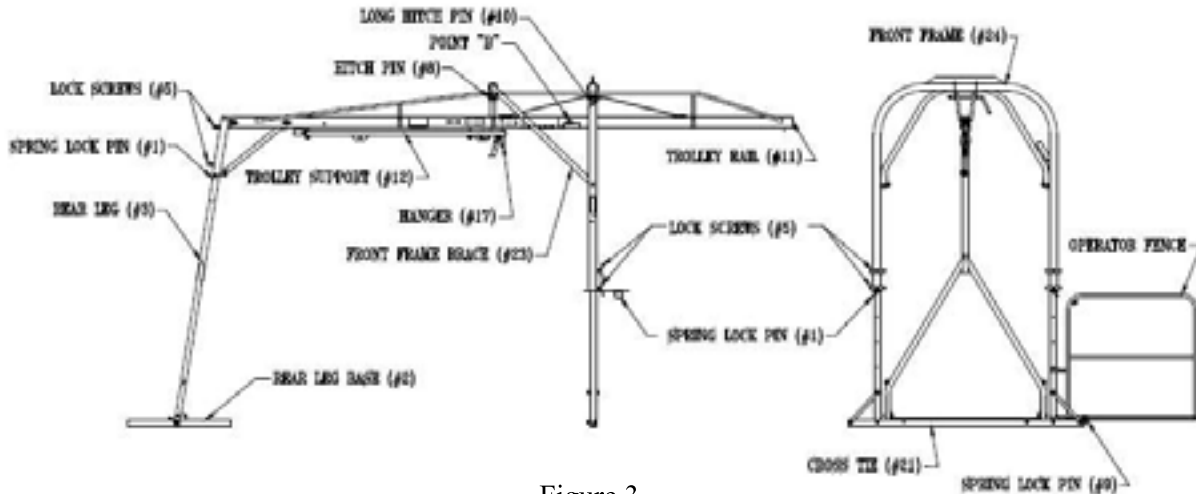

Figure 3
<p>Procedure</p> <ol style="list-style-type: none"> <li>1. Conduct a pre-starting inspection <ol style="list-style-type: none"> <li>a. Determine that the roof deck can support the intended loads in hoisting and material handling in addition to the weight of the counterweight</li> <li>b. Ensure all structural members of the hoist are free of defects and damage that may affect the integrity of the hoist</li> <li>c. Read the safety labels for warning of potential hazards that can cause serious injury. If a label becomes hard to read consult with your supervisor to have it replaced</li> <li>d. Thoroughly read and understand the manufacturer’s instruction manual</li> </ol> </li> <li>2. Before raising to roof level <ol style="list-style-type: none"> <li>a. Refer to Figure 3. Insert short hitch pin #6 through the trolley rail at point “B” to prevent the trolley support #12 from rolling during transport and handling</li> <li>b. This pin should remain in place until the power unit is ready to be installed on hoist</li> <li>c. Hoist installation and setup cannot proceed until all necessary parts and equipment have been raised to the roof deck. Use a hoist beam, swing beam, or freight elevator for this purpose</li> </ol> </li> </ol>
- h. Refer to Figure 3. Raise the front frame brace #23 and tie temporarily to the top of the front frame assembly #24